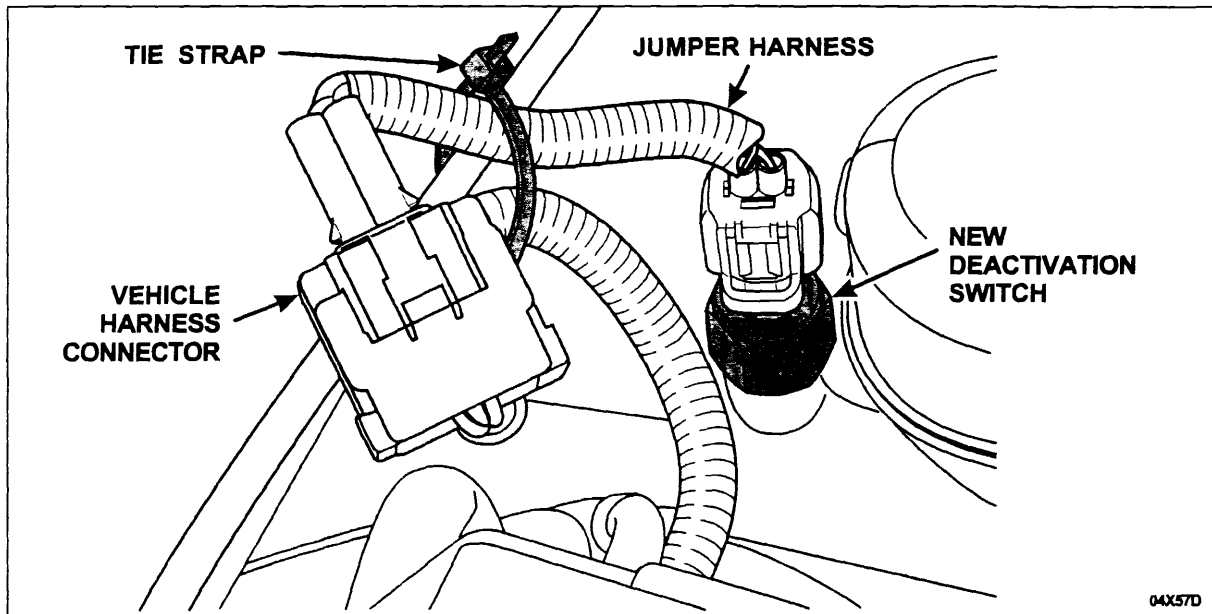

FIGURE 4
5. Using the supplied tie strap, secure the jumper to the speed control cable or some other stationary object. Keep the harness away from the power distribution box to avoid chafing the harness. See Figure 4.